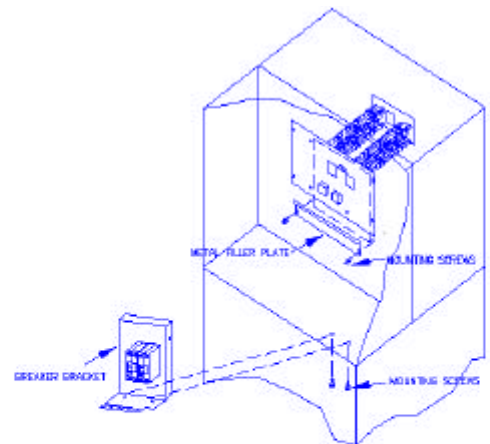

Fig. 1 HB2400 HEATER INSTALLATION
4. Slide heater assembly into blower section through the access opening (mounting position is important, check the label for correct position). Secure heater into place with screws provided. When installing heaters on HB2400VD size cabinets, use a metal filler plate (provided) to cover exposed cut out (see fig.1)
- I) On HB2400 units mount the circuit breaker bracket on the right side corner of the cabinet shelf. Insert the mounting screws through the blower deck from the blower side of the cabinet (see fig 1).